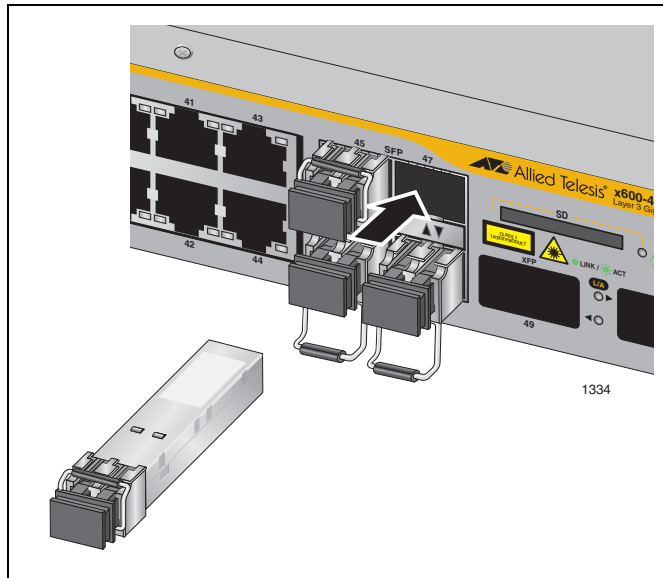

Figure 42. Positioning SFP Handles on the x600-48Ts and x600-48Ts/XP Switches
6. For the x600-48Ts and x600-48Ts/XP switches, verify that handles on the top two SFP modules are in the up position and the bottom two SFP modules are in the down position as show in Figure 42.